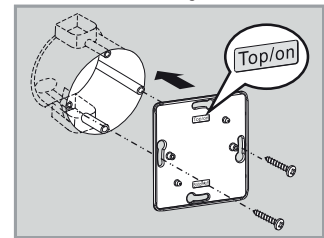

Fig. 12
- Place the insert plate in the design frame. Screw the insert plate onto the back plate (see Fig.12).